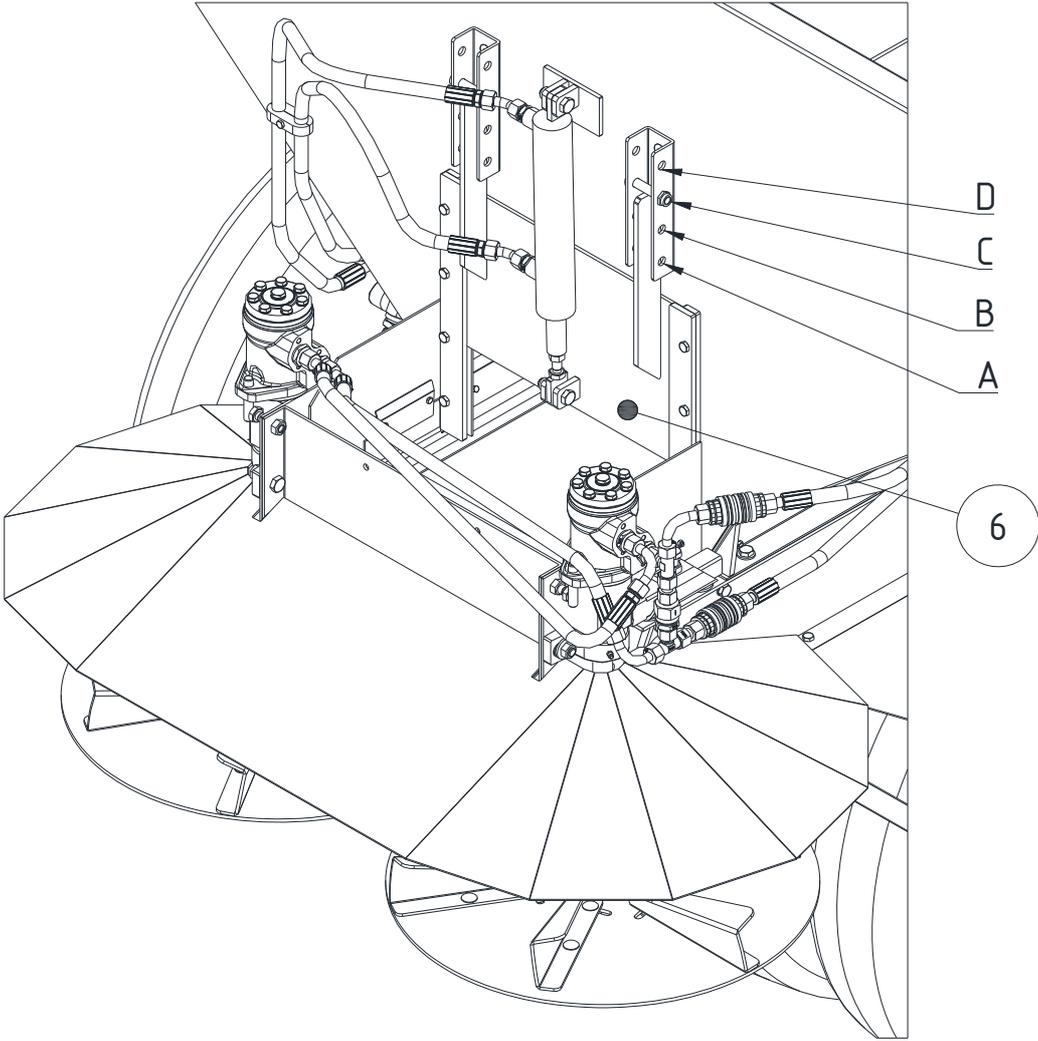
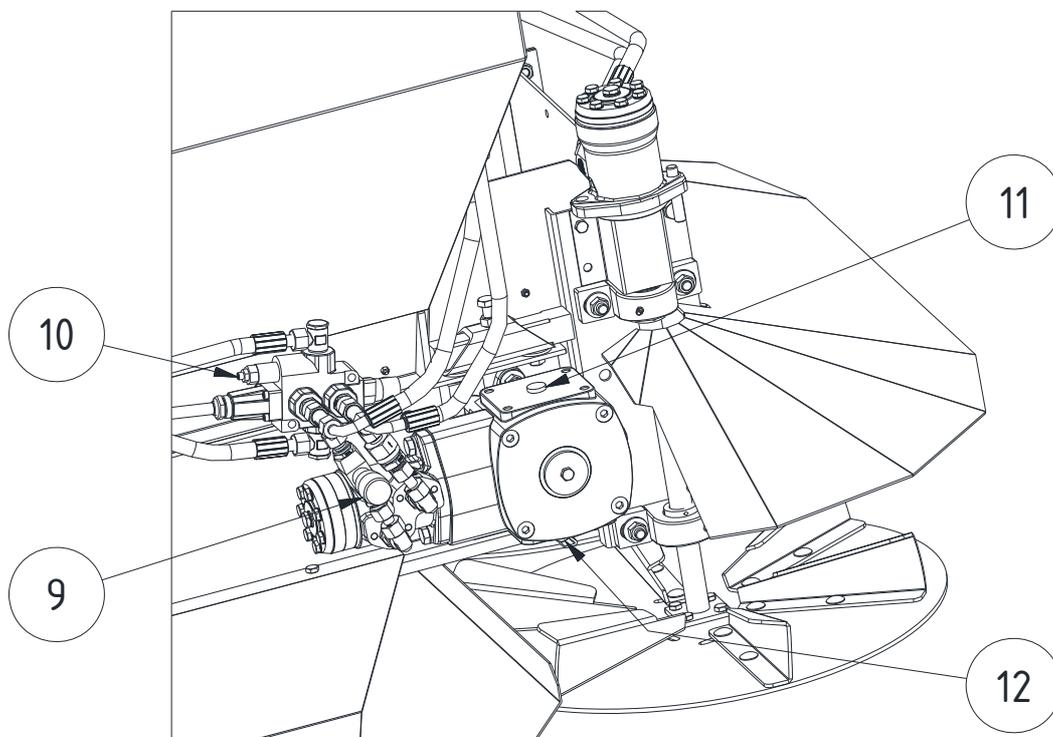

Fig. 2: Controls
Fig. 6: Conveyor gear unit
- (1) Conveyor belt speed regulator
- (2) Spreader disk speed regulator
- (3) Return line
- (4) Pressure line
- (5) Valve actuator for conveyor belt and slider
- (6) Slider (see p. 10 – fig. 2).
- Setting the opening A-D of the automatic slider (6) (see page 10 - fig.2)
- Overpressure valve (10) can be precisely set using hexagon socket (fig. 6).
- Throttle valve (9) (fig. 6) for slider regulation (6) (see p. 10 – fig. 2). Set the machine only in an empty state. Turn the throttle valve no wider than just to open the slider.